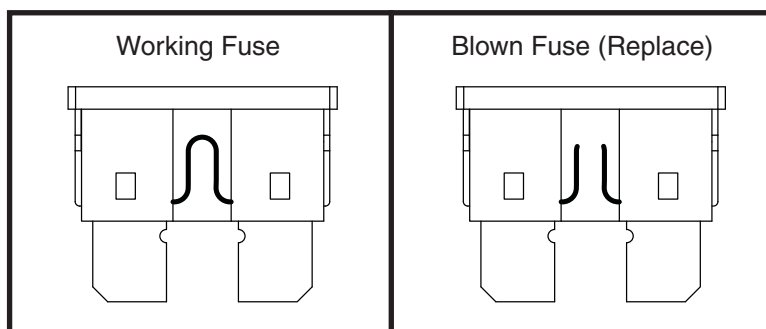

Figure 33. Fuse Replacement
2. Examine the fuse to be sure it is blown. See **figure 33**.